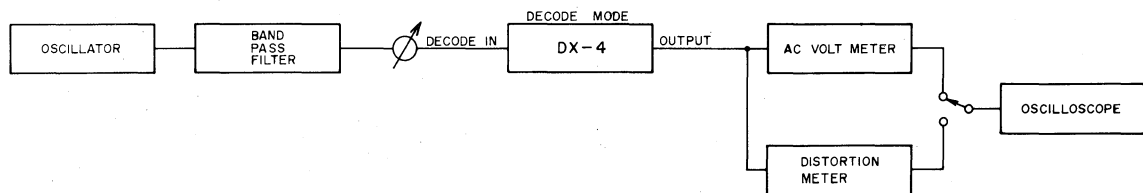

Fig. 5-3 Decode Test Connections
1. Hook-up the test equipment to the DX-4 as shown in the diagram. See Fig. 5-3. Test equipment specifications are the same as listed for the ENCODE Circuit test.